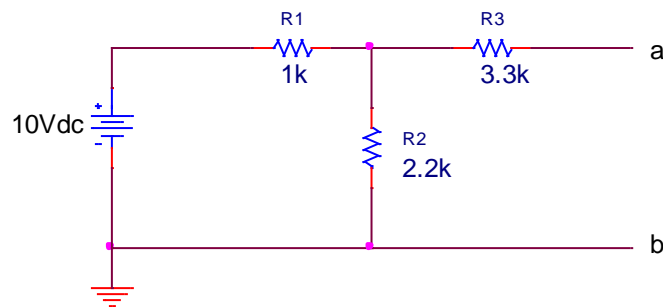

Figure 1.
2. Theoretically solve for the Thevenin's equivalent circuit (V_{TH} in series with R_{TH}) of Figure 1 between terminals a and b. Record it in the Table 1. Solve for Norton's current and record it in Table 1. Make sure to mention units for values recorded.